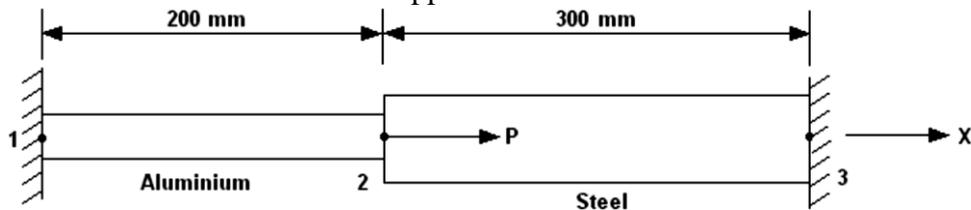

Figure 3
- (c)** Axial load $P = 300 \text{ kN}$ is applied at 20° C to the rod as shown in Figure 3. The temperature is then raised to 60° C . The coefficient of thermal expansion for Aluminium is 23×10^{-6} per $^\circ \text{ C}$ and Steel is 11.7×10^{-6} per $^\circ \text{ C}$. $A_{\text{Al}} = 900 \text{ mm}^2$, $A_{\text{Steel}} = 1200 \text{ mm}^2$, $E_{\text{Al}} = 70 \times 10^9 \text{ N/m}^2$, $E_{\text{Steel}} = 200 \times 10^9 \text{ N/m}^2$. Using FEM, Determine the nodal displacement and element stresses and the reaction forces at the supports. **07**